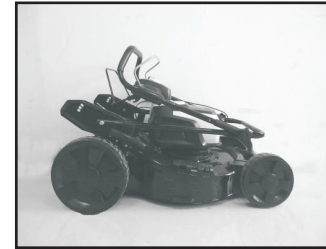
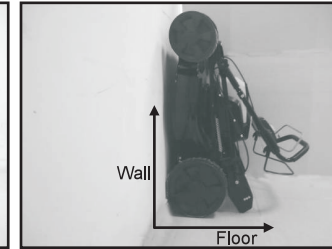

Fig. 16A
Fig. 16B
- Unscrew the locking knobs that fix the lower handle and upper handle, fold the lower handle and upper handle to the storing position. (Fig.16A)
- Store the mower flat or upright (Fig. 16A/Fig.16B).